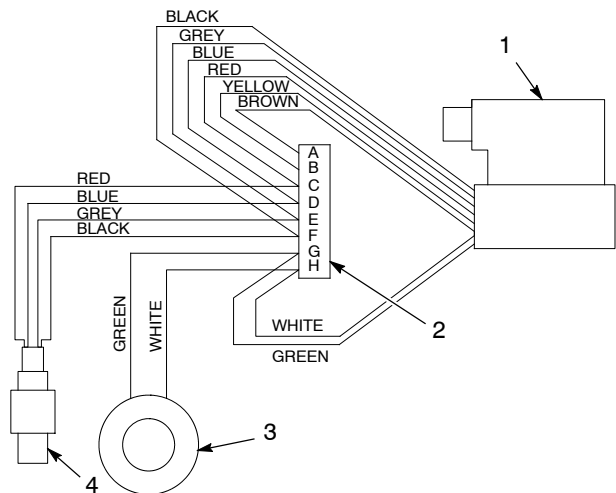

Figure 11 Cordset Wiring
3. Loosen the terminal block (3) set screws that secure the four colored wires from the cordset (7). See Figure 11 for the cordset wiring diagram.
5. Remove the screws (11) and remove the pressure transducer cover (10).
6. Unplug the cordset from the pressure transducer (12).
7. Remove the screws (9) and remove the cordset clamps (8).
8. See Figure 11. Install the wires of the new cordset in the proper terminal block slots as shown in the diagram and tighten the screws.